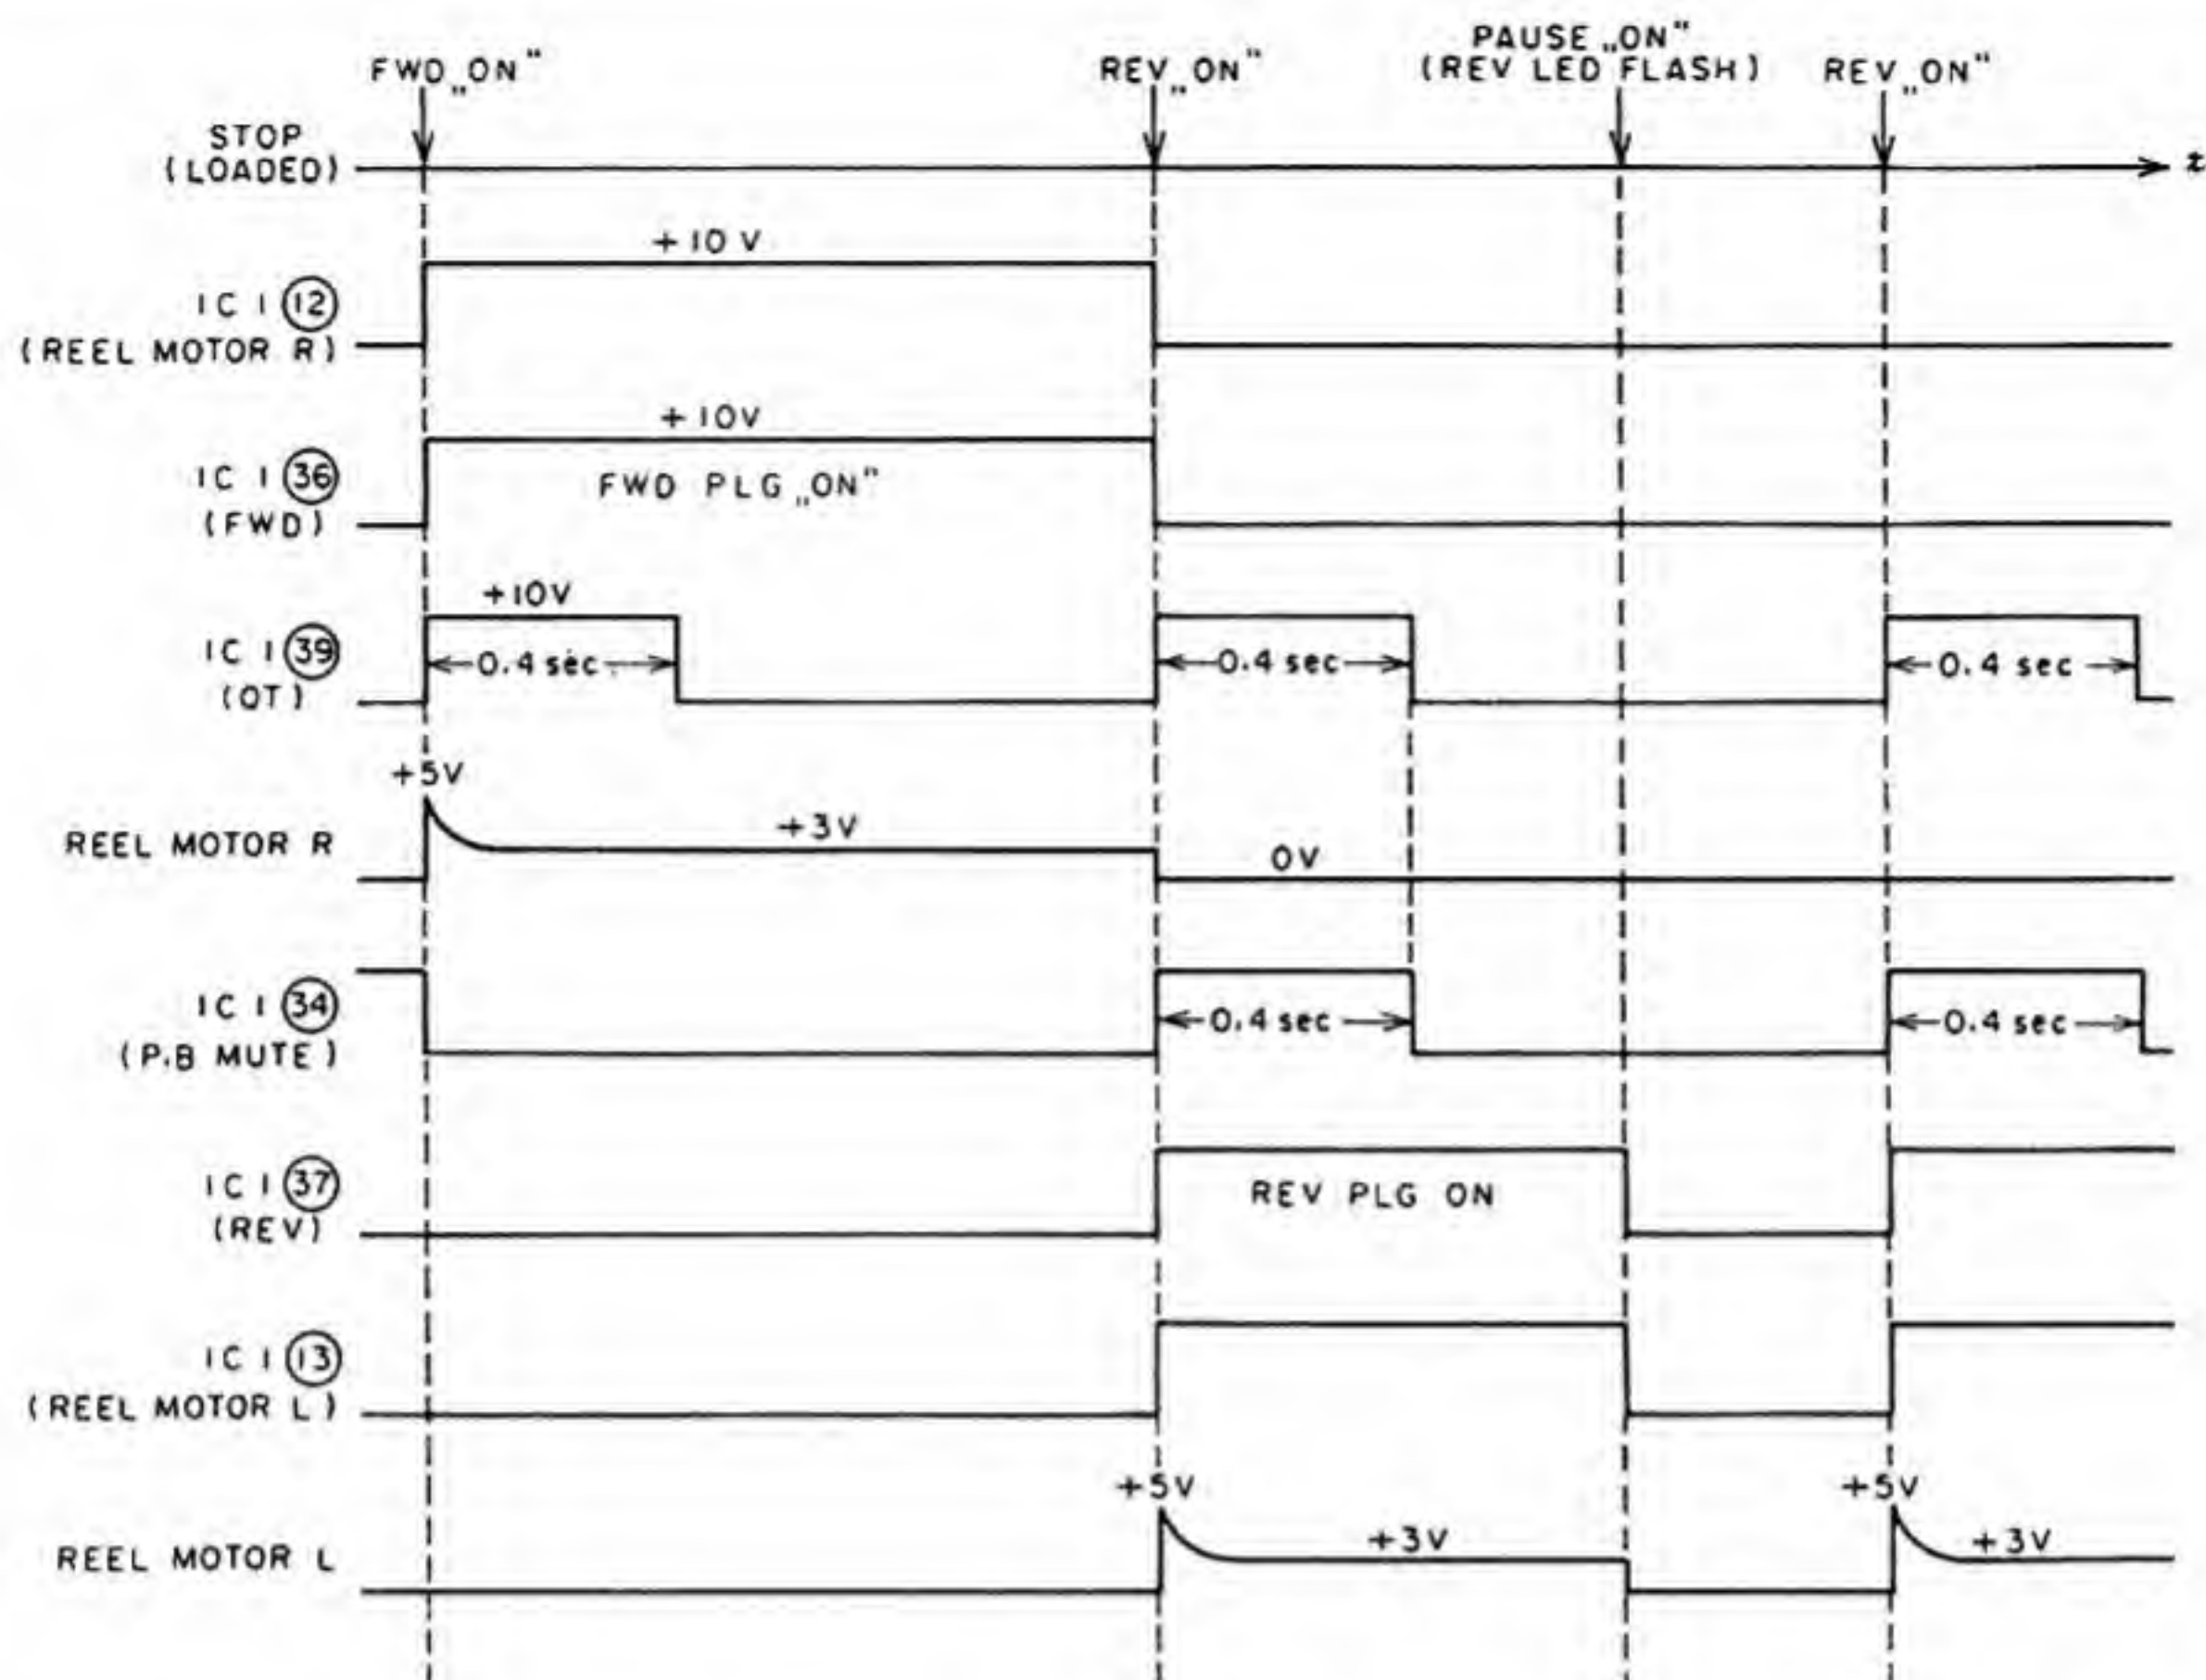

Fig. 11
5) STOP → FWD → REV → PAUSE Mode (Refer to Fig. 11)